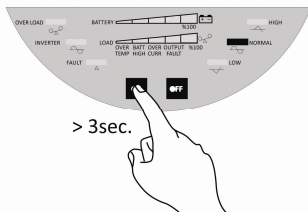
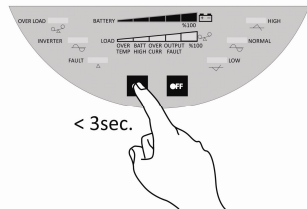

Figure 3.7
Figure 3.8
- a. The UPS has *Cold Start* feature. It means that the UPS can be started on battery without mains connection. Press **ON** button until an audible warning is heard, meanwhile observe that **NORMAL** LED is turned on (Figure 3.7). Along with audible warning, all LED lights will flash and UPS will start up. Observe that battery indicators LED lights are on and press **ON** button briefly (Figure 3.8).